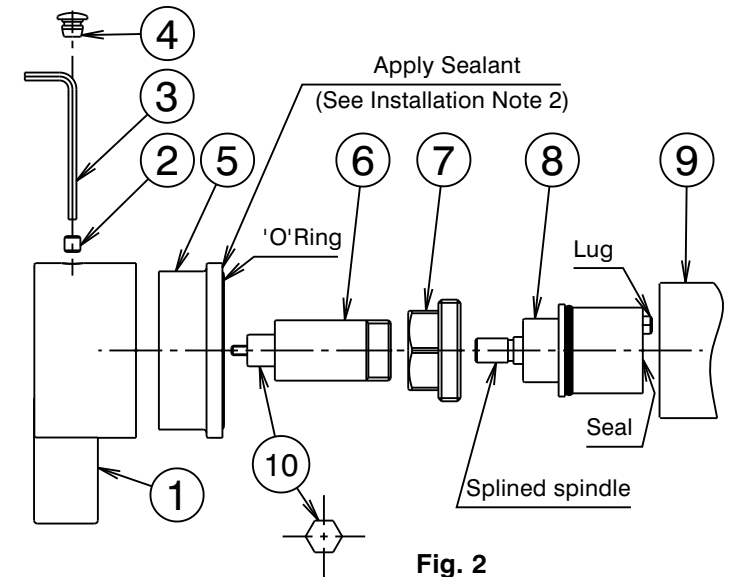
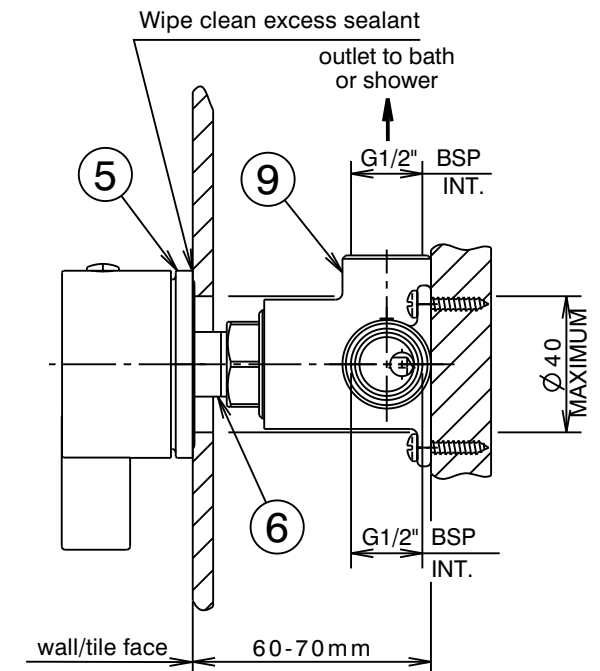

Fig. 2
Fig. 1
Installation (Fig. 1 & 2)
- * Mixer body (9) must be installed square to wall/tile face, to ensure cover plate (5) sits flush.
- 2) **Trim kit:** Apply a suitable clear sealant to the back face of the cover plate (5), leaving an unsealed section at the bottom for drainage. Slide the cover plate (5) together with fitted 'O' Rings onto sleeve (6) as shown (Fig.2), then push the cover plate (5) along the sleeve (6) until it firmly contacts the wall/tile face. Wipe/clean any excess sealant from the chrome surfaces & the wall/tile face (Fig.1). Rotate the cartridge (8) spindle anti-clockwise to the stop position using the hexagon shape of the cartridge stem (10).
- 3) Align the handle (1) with the lever pointing downwards, then fit onto cartridge stem (10) and tighten grub screw (2) using the 2.5mm allen key (3). Fit plug (4), taking care not to damage the decorative finish.
Replacing Cartridge (Fig. 2)